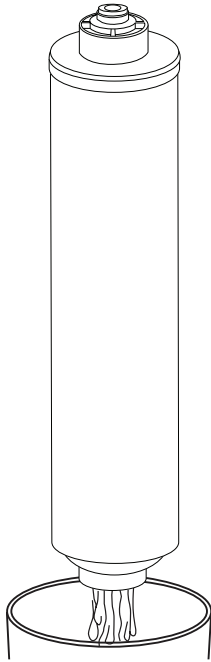

Figure 3
5. Turn on the incoming water supply and flush the filter into a bucket. Run water for 5 minutes to flush out air. (See Figure 3).